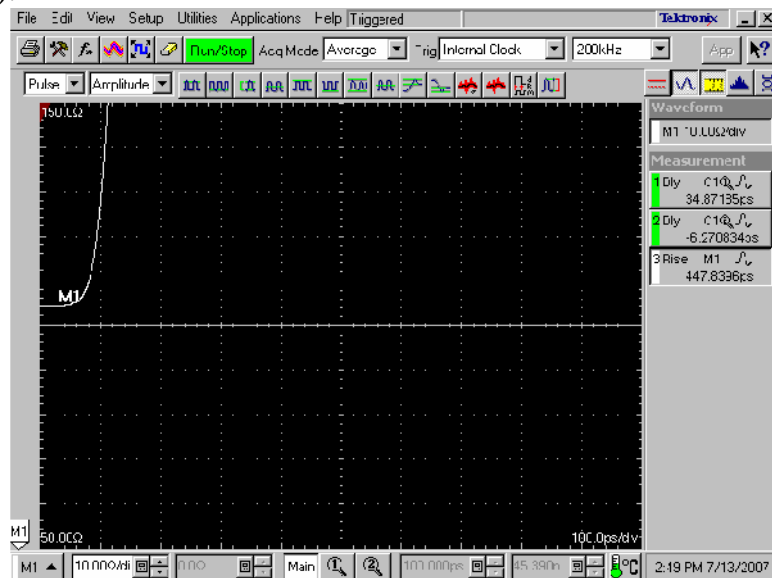

Figure 9: TDR rise-time waveform
8. Adjust the **HORIZONTAL POSITION** knob so that the rise-time waveform is displayed at near 1 major division from the left side of the screen (see Figure 9).